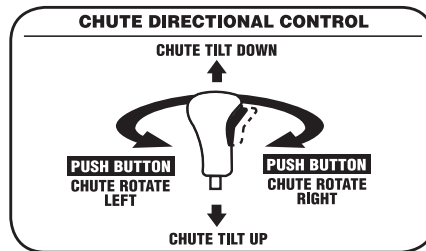

Figure 3-8
- To change the direction in which snow is thrown, squeeze the button on the joystick and pivot the joystick to the right or to the left. See Figure 3-8.